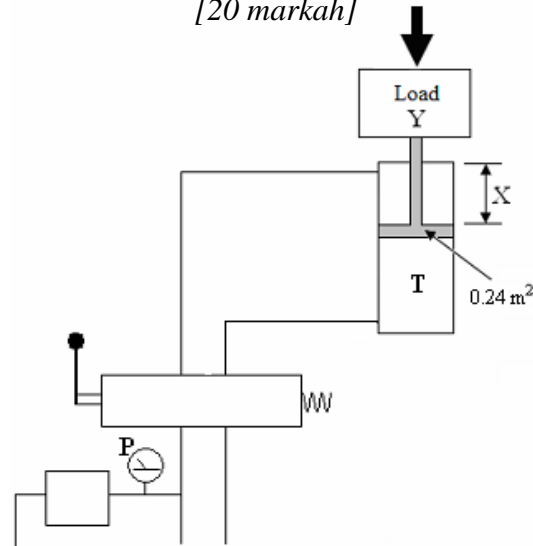

Figure 3
3. Figure 3 shows an incomplete schematic circuit of a hydraulic system, which is used to lift load Y. The piston area is  $0.24 \text{ m}^2$  and its displacement of motion X is 16 mm.